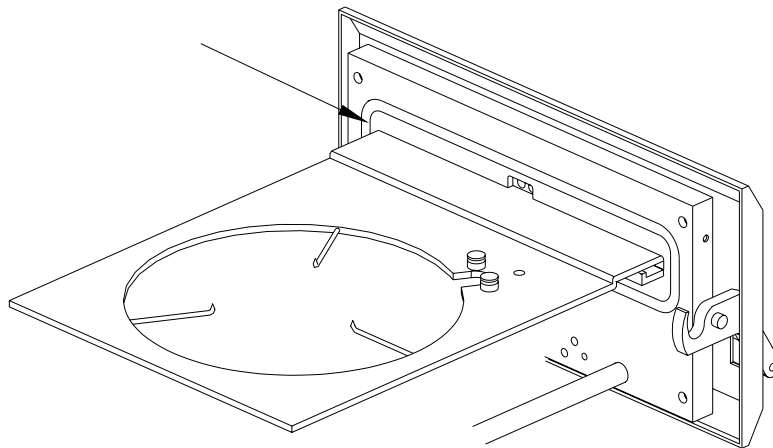

Figure 6-8. Top Portion of Door O-ring
1. Remove the top portion of the door O-ring (see **Figure 6-8**).